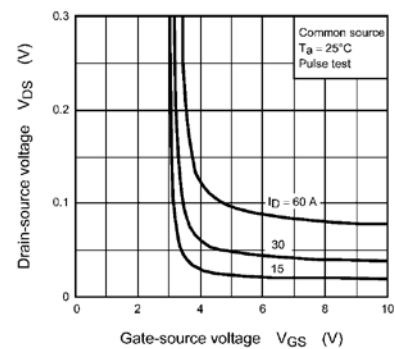

Figure 1.4 V_{DS} - V_{GS} Curves
- (2) MOSFETs turn on when the gate-source voltage V_{GS} exceeds their threshold voltage V_{th} (Figure 1.2). It is therefore necessary to choose a value for V_{GS} that is sufficiently higher than V_{th} . There is a tendency that the higher the V_{GS} , the lower the $R_{DS(ON)}$ value becomes. Also, the higher the temperature, the higher the $R_{DS(ON)}$ value becomes (Figure 1.3). In order to reduce loss, it is important to increase V_{GS} in order to minimize the resistance of the device at the current level at which it is used (Figure 1.4). Conversely, a high V_{GS} value increases the drive loss at light loads for high frequency switching. Selecting the optimal gate voltage is therefore critical.
- (3) Generally, it is recommended to drive the gate of many power MOSFET at a V_{GS} of 10 V. Toshiba's product portfolio also includes power MOSFETs designed for gate drive at a V_{GS} of 4.5 V. Select the power MOSFET that best suits your equipment requirements.